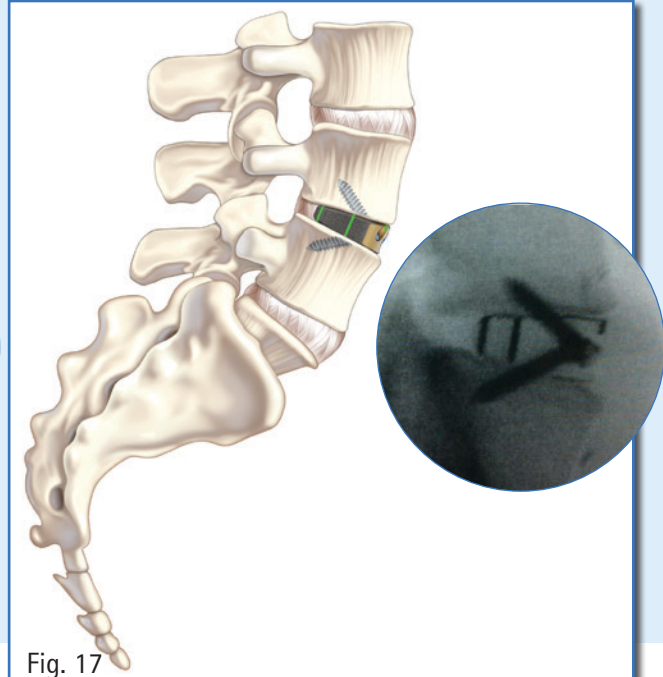

Fig. 17
- The final lateral image should confirm that the anterior edge of the implant is seated flush with the anterior border of the vertebral body (Fig. 17).